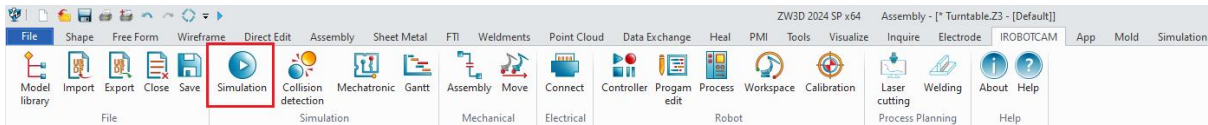

Figure 13-38: Simulation button
- Click the "Simulation" button.(Figure 13-38)